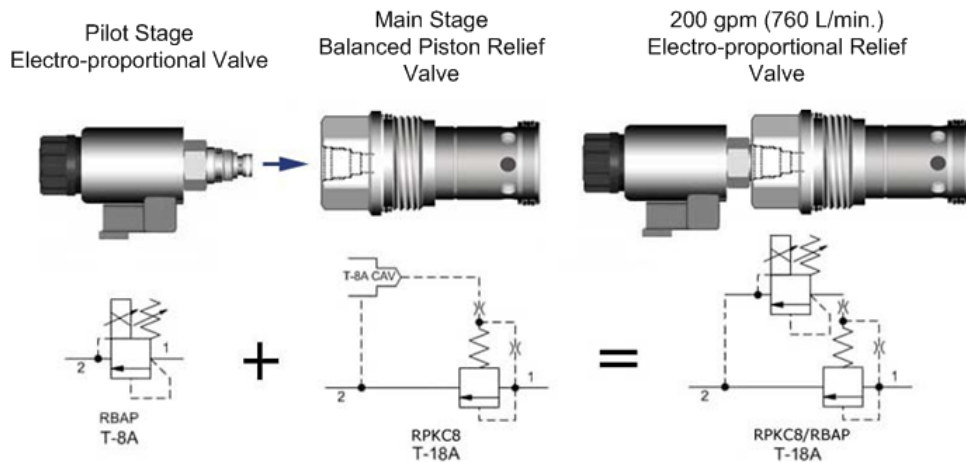

Figure 1.
- Nominal capacity is 0.25 GPM (1 L/min). *(Used in conjunction with a main stage relief or reducing valve, flow rates up to 200gpm [760L/min] can be obtained. See Figure 1.)*